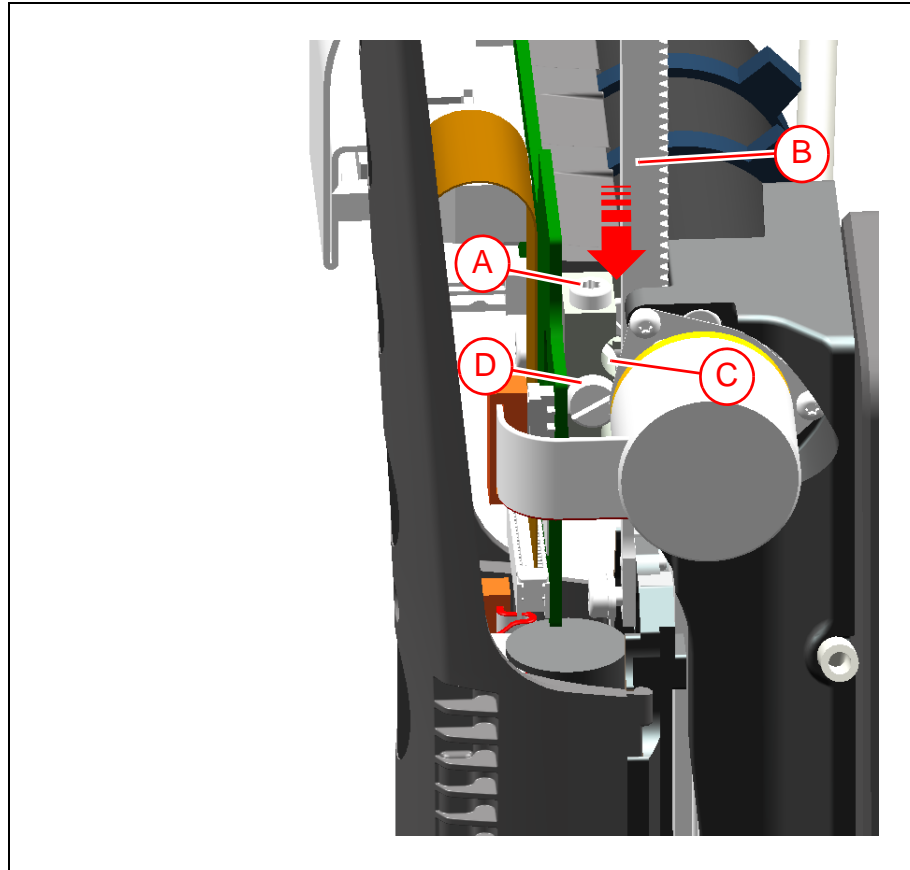

Figure 6-9. Midas II (right side view).
3. Carefully loosen the locking screw ('A' in Figure 6-9).
4. At the arrow in Figure 6-9, insert a thickness gauge 0.05mm in the gap between the back of the rack ('B') and the pressure roller ('C').